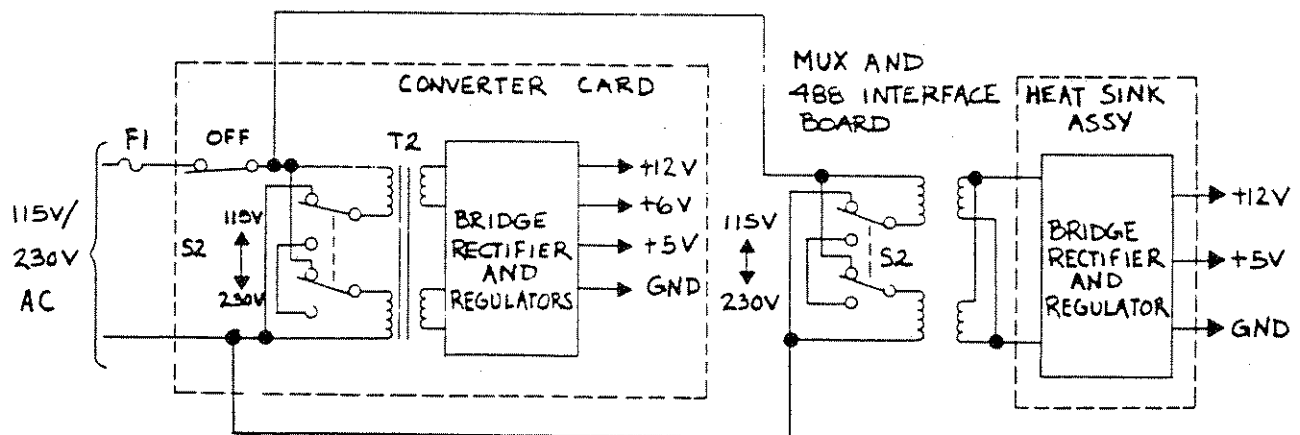

Figure 3-7. Power Supplies and Power Distribution
3.8 POWER SUPPLY CIRCUITS (See Figure 3-7.)